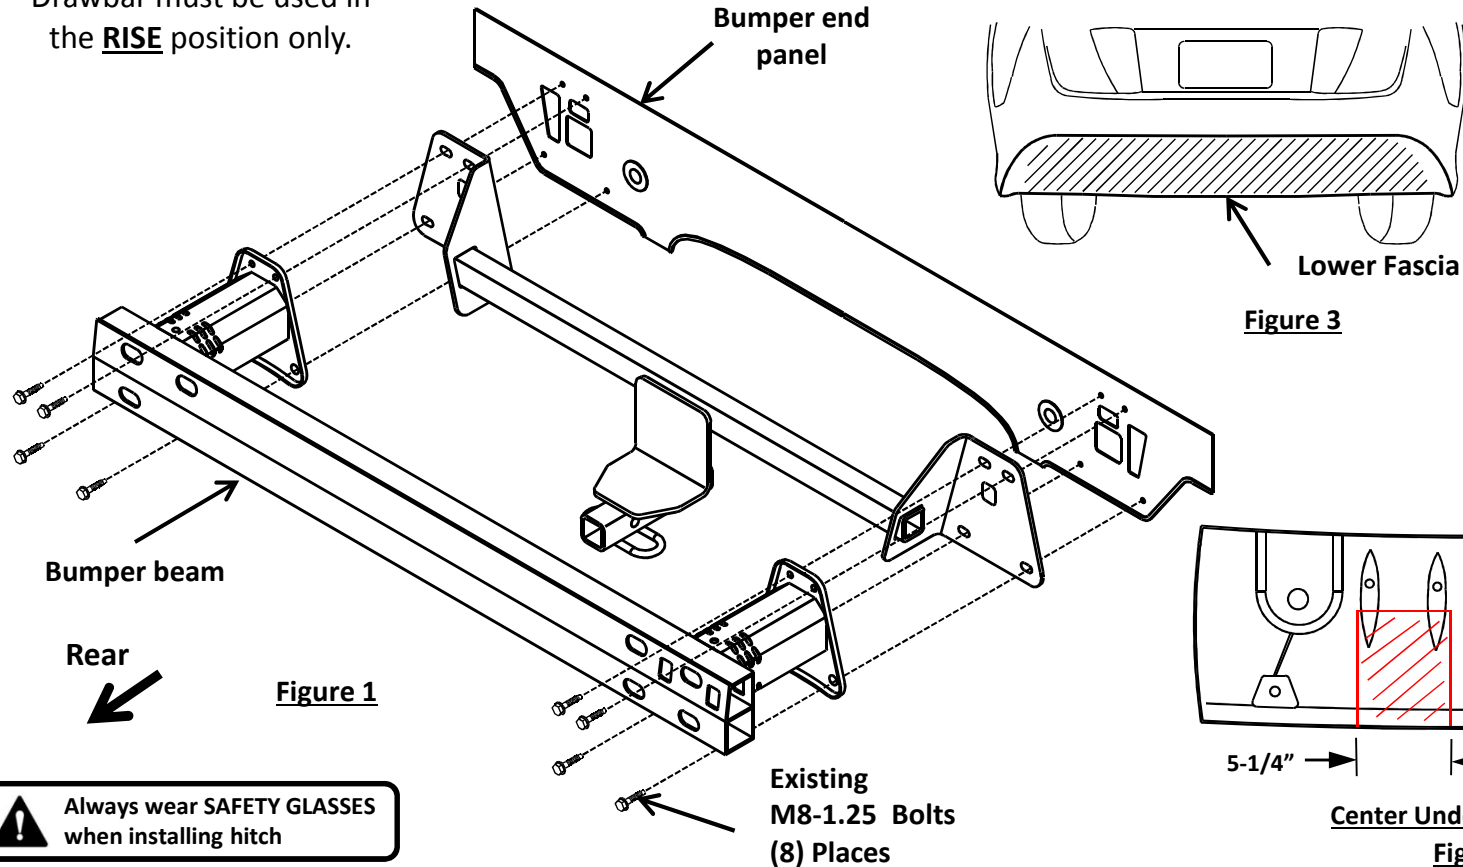

Figure 2
1. **Remove (3) plastic underbody panels** – using a flat head screw driver, remove (14) plastic push-type rivets and (3) threaded panel fasteners from bottom panels.
- 2a. **Lower Fascia removal** - using a Phillips head screw driver, remove (2) screws located at bottom inside edge of lower fascia, (1) per side.
- b.) using a plastic trim panel tool, remove (5) clips holding wiring harness to fascia retaining tabs. See Figure 2.